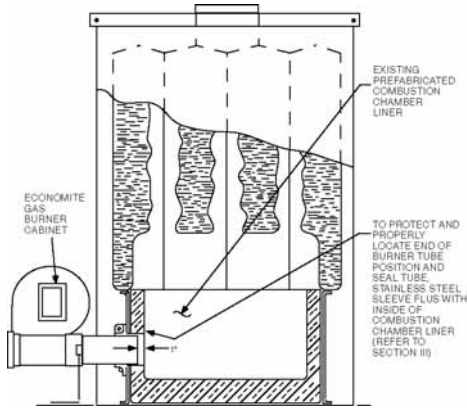

Figure 1: Dry Base Boiler with Combustion Chamber Liner (Warm Air Furnace Construction is Similar)
□ The burner tube, or the stainless steel sleeve that is included with the burner, must be sealed air tight into the combustion chamber liner opening with refractory material as shown by Figures 1, 2 and 7. The sleeve is preferred as it is
**WARNING:** Burner cabinet must be mounted in orientation shown in figures 1 and 2. Any other mountings may cause a dangerous condition, and will void burner warranty and agency approvals. Non-standard arrangements may be available for some models; consult factory for details if required.